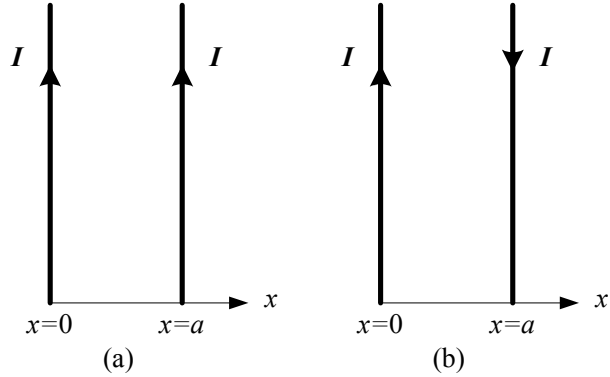

Figure 2: Two parallel straight conductors with
where a is the distance between the conductors. Equation (2) applies to the case when the currents flow in the same direction and equation (3) applies when the currents flow in opposite directions as shown in Figure 2 (a) and (b), respectively.
1. Plot a graph of the experimental relation between the current in the wire and the resulting magnetic field. Compare with the theoretical results based on equation (1). (Note: plot both results on top of each other).
2. Plot a graph of the experimental relation between the magnetic field of the wire and distance. Compare with the theoretical results based on equation (1). (Note: plot both results on top of each other).
3. Based on your experimental curve for a single wire, sketch the expected field from the structures in Figure 2 (a) and (b).